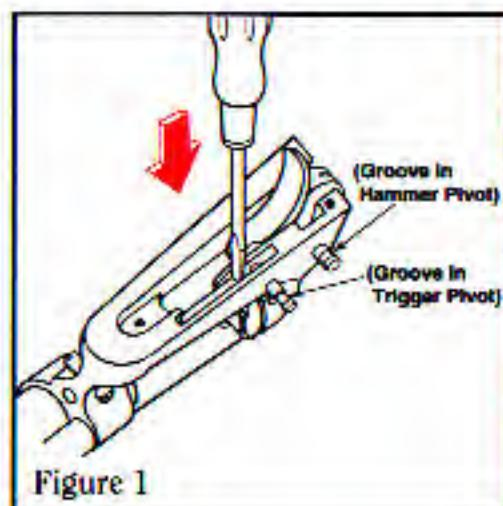

Figure 1
6. Remove the trigger pivot (pin) as follows: using a screwdriver as shown in Figure 1, p. 16, depress the gate detent spring so that the end of the spring which rests in one groove of the trigger pivot is free of the groove. Then, use a drift and hammer to push the pivot completely out of the frame.
2. (Refer to Figure 1). Align hammer in frame and insert hammer pivot with the grooved end of the pivot on the gate side of the frame. (The long screw, XR01901, when also inserted on the gate side, will intersect the groove and lock the pivot in place. See step number 11, p. 18).
4. (Refer to Figure 1, p. 16). Depress the upper arm of the gate detent spring with tip of screwdriver blade and install trigger pivot. Pivot should be inserted from the gate side of the frame. The non-grooved end of the pivot should be inserted first. (It may be necessary to manipulate the trigger, the gate detent spring, and the cylinder latch to align them to receive the trigger pivot).